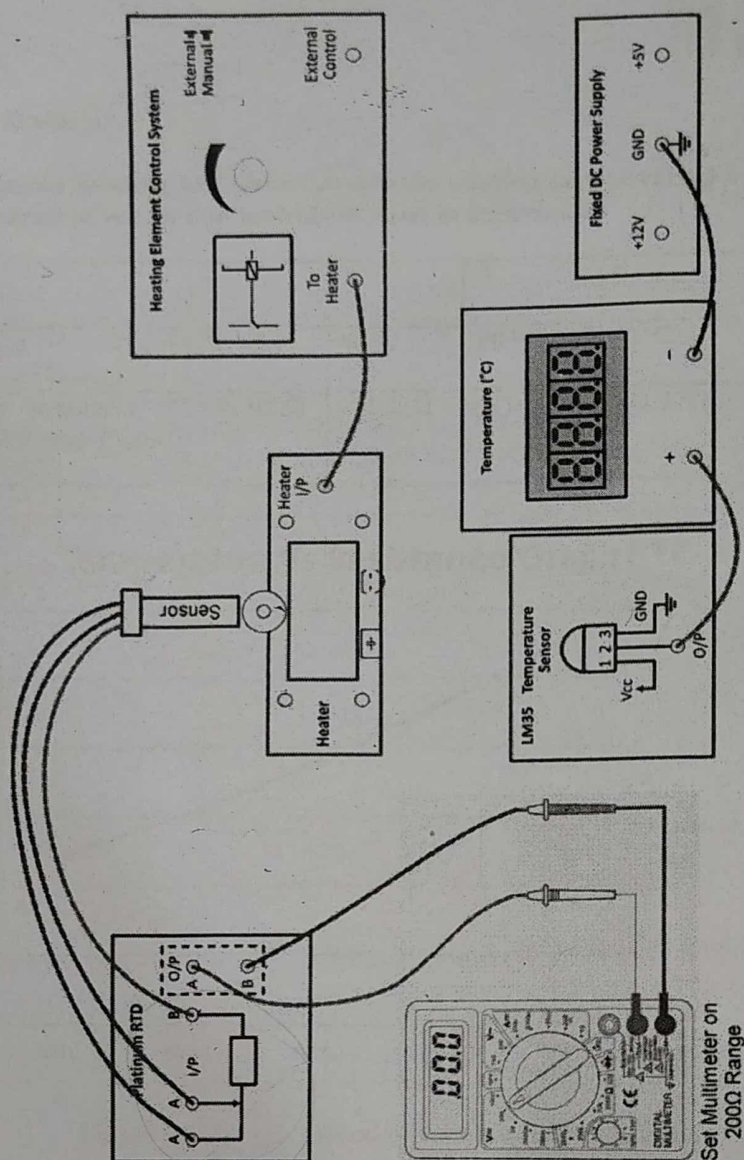

Fig4.1: Connection circuit of PT100 RTD
1. Make Connection Diagram as shown below figure4.1.